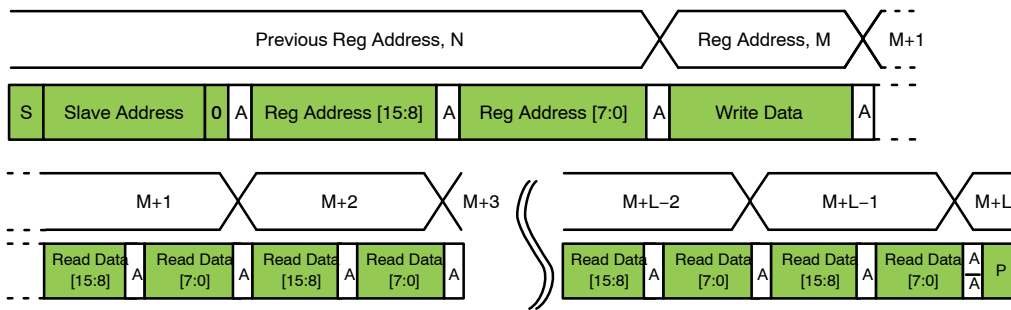

Figure 25. Sequential WRITE, Start from Current Location
**Table 21. AC ELECTRICAL CHARACTERISTICS** (referring to Figure 25)